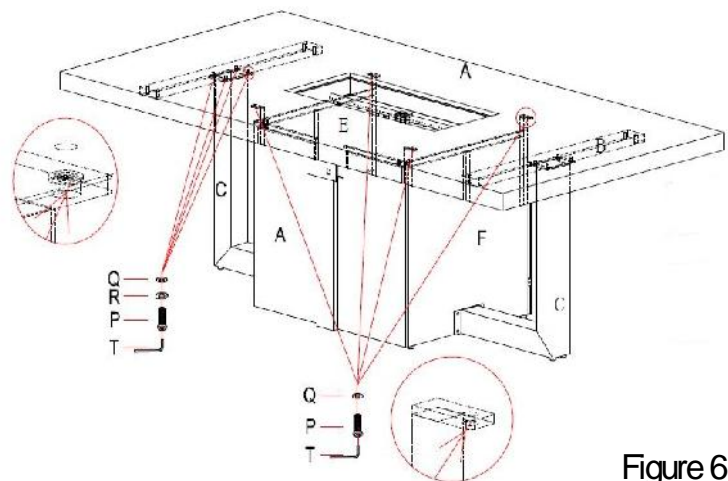

Figure 6
6. Attach the Base assembly to the Beam (B) with Bolt (P) and Spring washer (R) and Washer (Q) by using the Hex screw driver (T). Attach the Base assembly to Table top assembly (A) with Bolt (P) and Washer (Q) by using the Hex screw driver (T), see Figure 6.